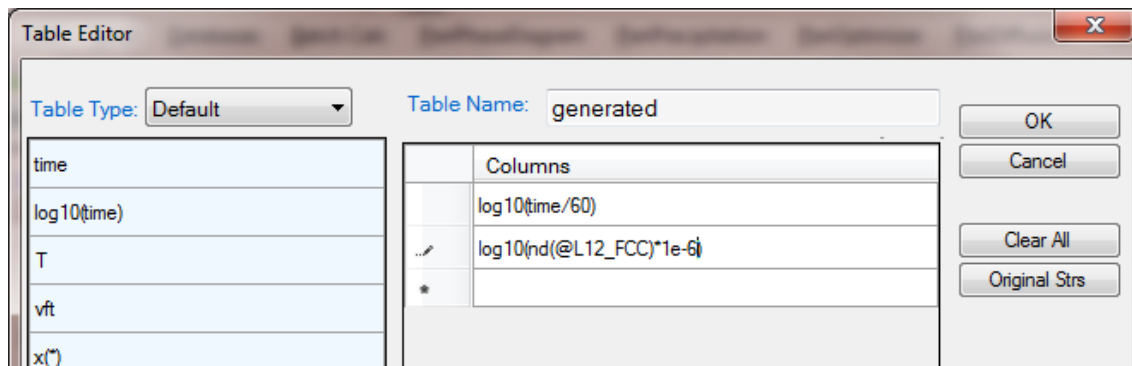

Figure 3.1.5: Create a new table with two columns with the first column $\log(\text{time})$ and the second the number density of the precipitate per cm^3
- Create a new table as shown in Figure 3.1.5. A new table with two columns will be created with the first $\log(\text{time in minute})$ and the second the number density of L12_FCC in cm^3 . Create a plot from this table and rename it as nd;